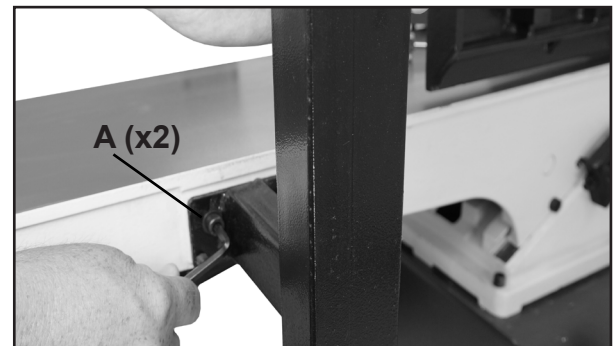

FIG. 15
2. Install the Switch Post to the rear of the infeed table and secure using two M8 x 20mm Allen bolts and two 8mm flat washers. A-FIG. 15.